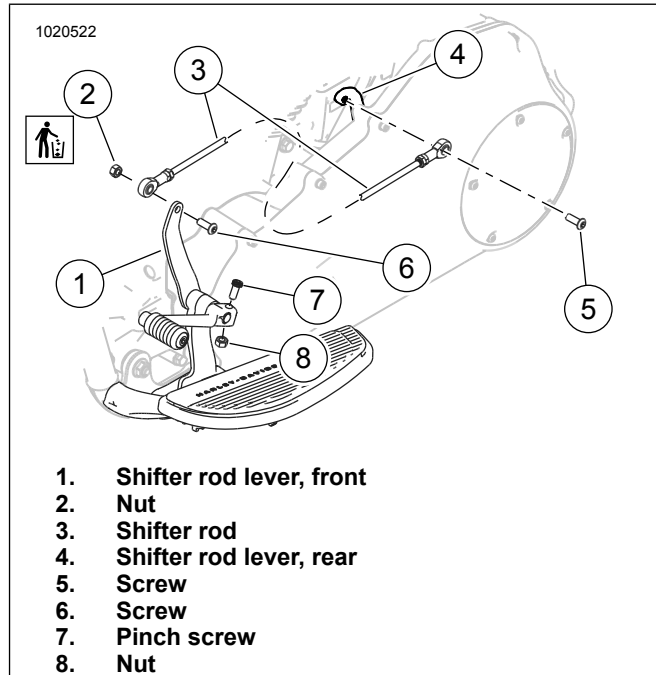

Figure 2. Shift Linkage: Forward Control Models
1. See Figure 2. Remove screw to free linkage from front shifter rod lever (1).
- a. Remove pinch screw (7) and nut (8).
1. See Figure 2.